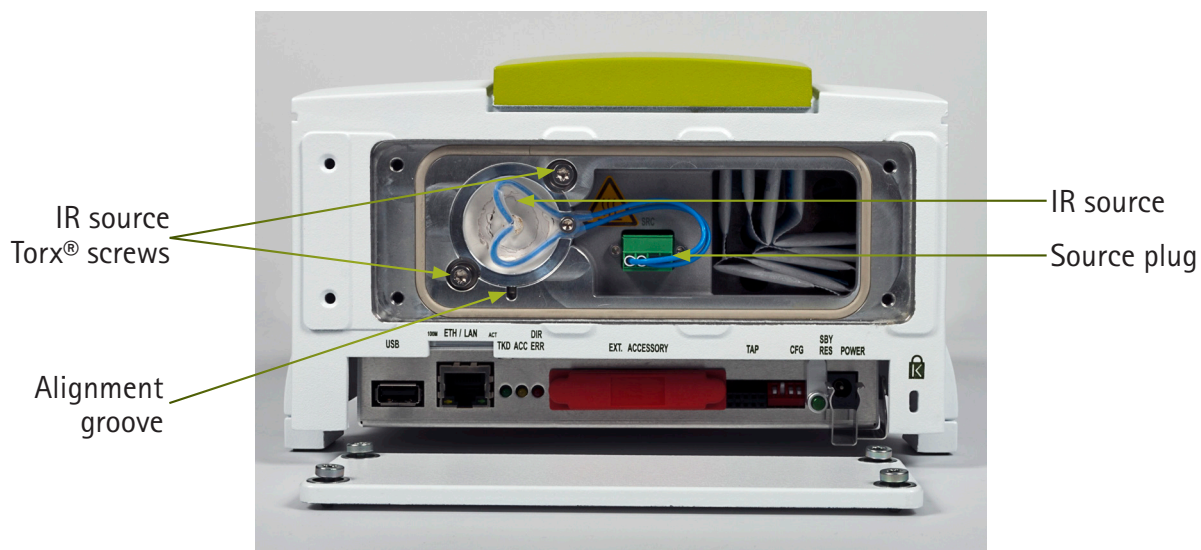

Figure 22. Removing the IR source
7. Insert the new IR source into the spectrometer housing. Make sure that the alignment pin fits into the alignment groove (Figure 22).